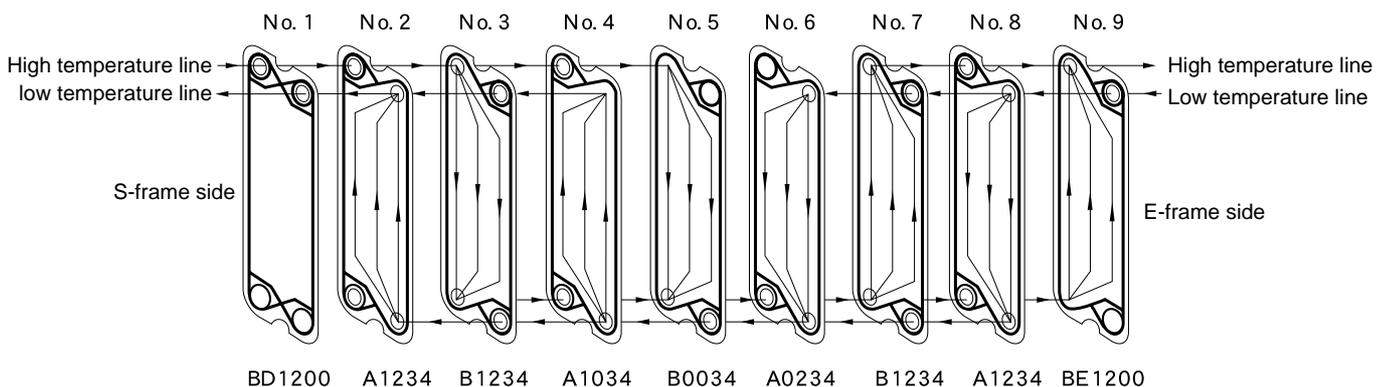
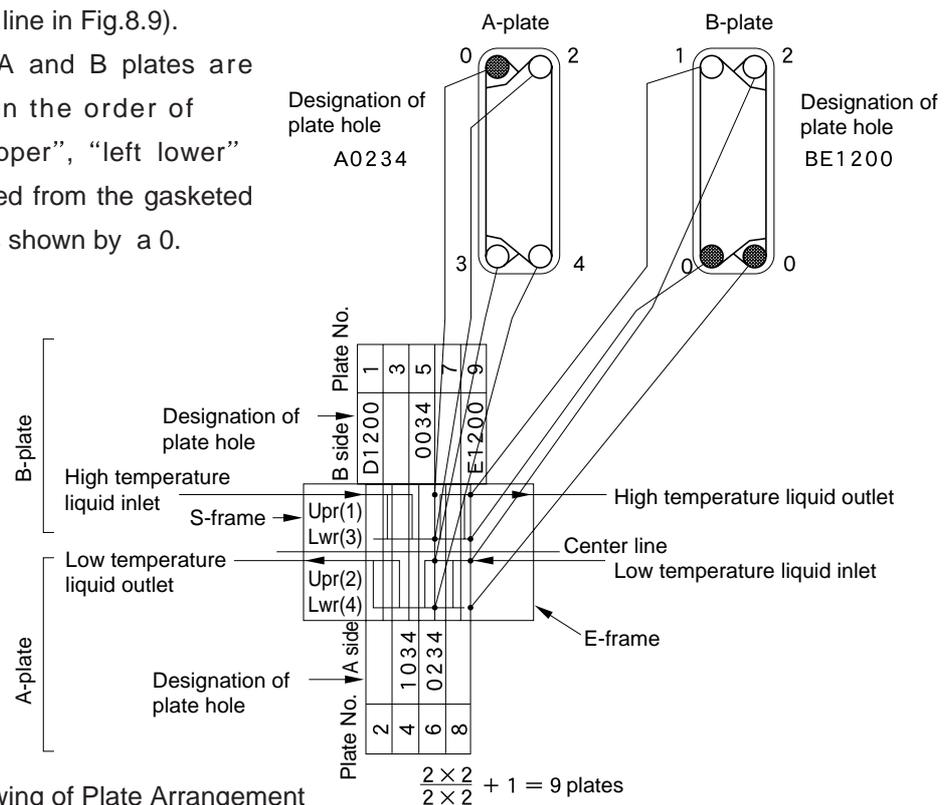

Fig.8.8 Example of flow pattern in plate channel
Fig.8.9 Drawing of Plate Arrangement
The two fluids never mix together even in the case of fluid leak, due to a structure wherein each fluid flows through different gaskets on each plate surface. An example of the fluid flow pattern is shown in Fig.8.8. Wherein high temperature flows in from the S-frame inlet and outflows to the E-frame outlet. When flowing through the plate channel from the left upper port holes of No.3 and No.5 plates, the fluid is branched into two parallel flows and it is repeated twice. On the other hand, low temperature flows in through the right upper port hole of No.9 plate and further flows into No.8 and No.6, diverted into two parallel flows and it is repeated twice respectively.
The Drawing of Plate Arrangement shows the plate arrangement. For example, Fig.8.8 can be shown as Fig.8.9. (Please refer to individual instruction manual for YX, GX and WX type.)
- (1) Plates are shown by a vertical line within the rectangular area in Fig.8.9, wherein the gasketed surface of the plate is always facing to the S-frame side.
- (2) The “designation of plate hole” is entered to the “hole designation column” which is formed by extension of a vertical line indicating the adjacent plate.
- (3) The description of A-plate is entered to the lower area from the center line, while that of B-plate is entered to the upper area from the center line.
- (4) The plate hole is located at the intersecting point of a vertical line indicating the plate and a line indicating the channel. And fluid flowing over the B-plate surface always flows through the left side hole of the plate (upper side from the center line in Fig.8.9), while fluid flowing over the A-plate surface always flows through the right side hole of the plate (lower side from the center line in Fig.8.9).
- (5) The hole position of A and B plates are shown by 1, 2, 3, 4 in the order of “left upper”, “right upper”, “left lower” and “right lower” viewed from the gasketed side. And “no hole” is shown by a 0.
- (6) Plate hole position is determined for an optional passage plan by defining the holes as stated above. And the designation of hole 1, 2, 3, and 4 is defined. However, in the case of a plate with 4 holes (i.e.1.2.3.4), designation of plate hole is omitted and shown as blank.
- (7) Plates (No.1, No.9 in Fig.8.8) adjacent to the S-frame and E-frame are slightly different from other plates, their designation of plate hole is shown by adding D an E symbols thereto.